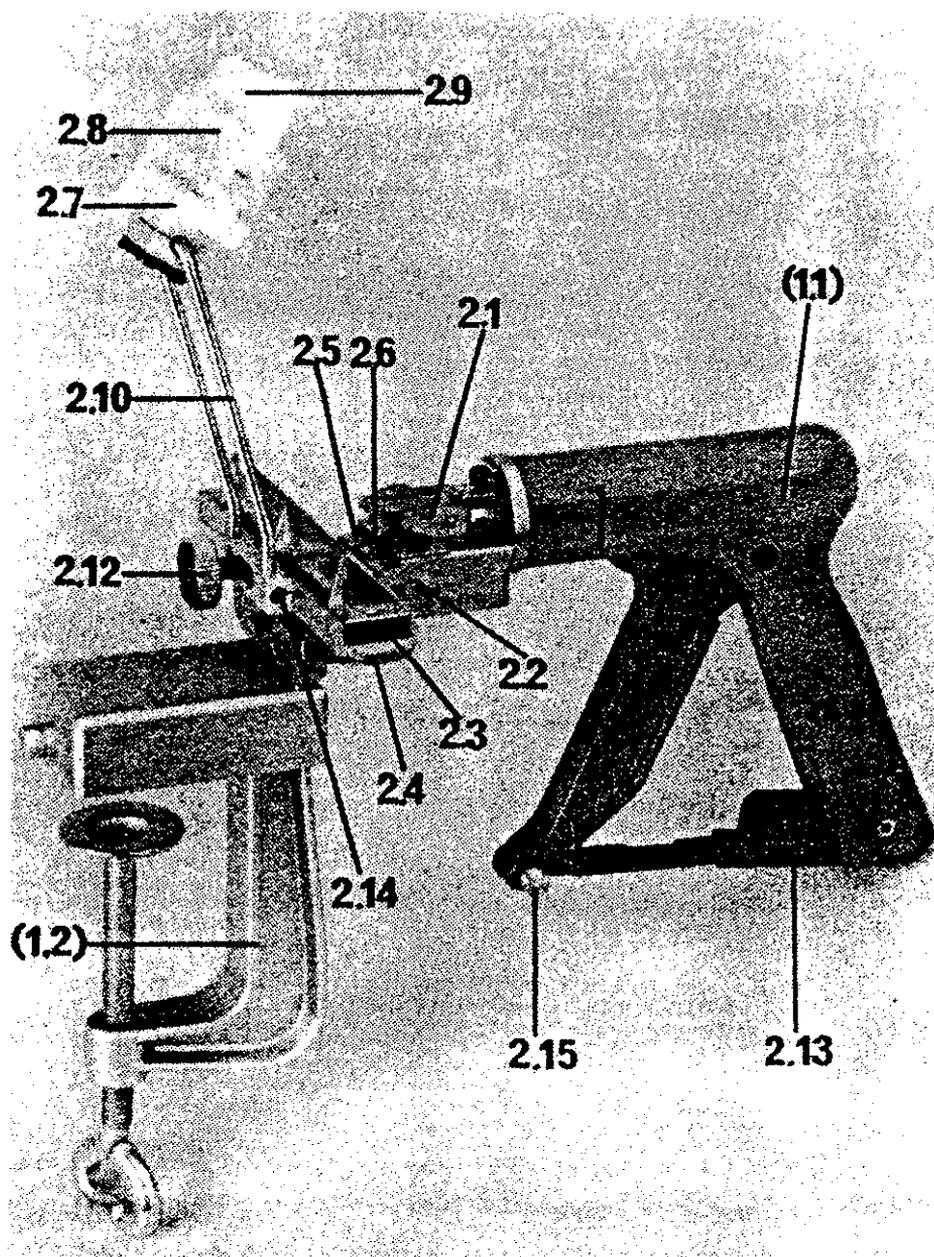

Figure 2
3. DESCRIPTION DES ELEMENTS DE L'OUTIL (Figure 2)